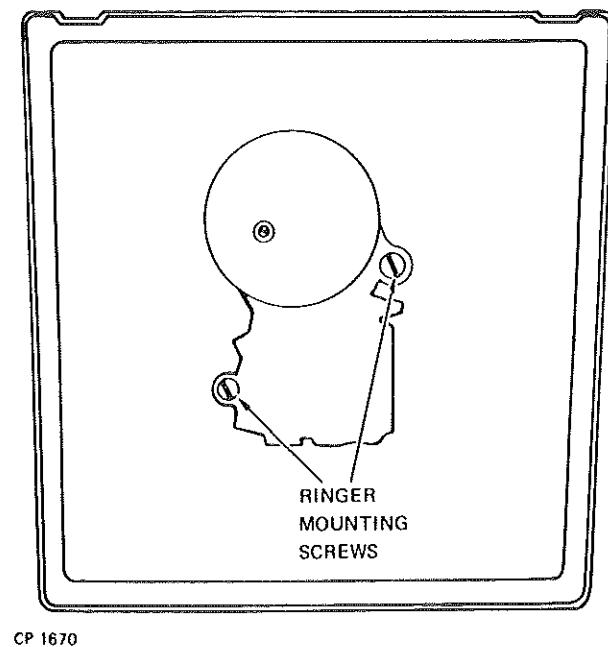

Figure 4. S-C Series 20 Ringer, Mounting
3. Mount the ringer to the telephone base (fig. 4). Use the two mounting screws provided with the ringer.